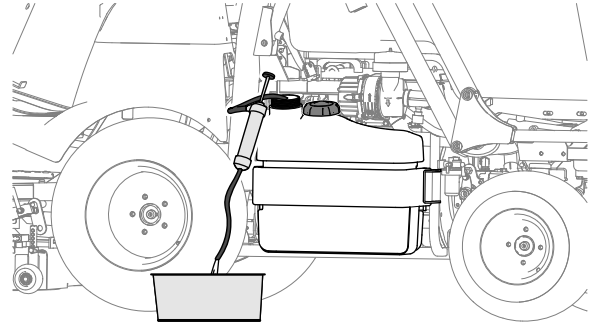

Figure 73
- If you store the machine for an extended period, use a siphon pump to empty the fuel tank (Figure 73).
- If the fuel system becomes contaminated, use a siphon pump to empty the fuel tank (Figure 73), clean the tank, and use clean diesel fuel to flush out the tank.